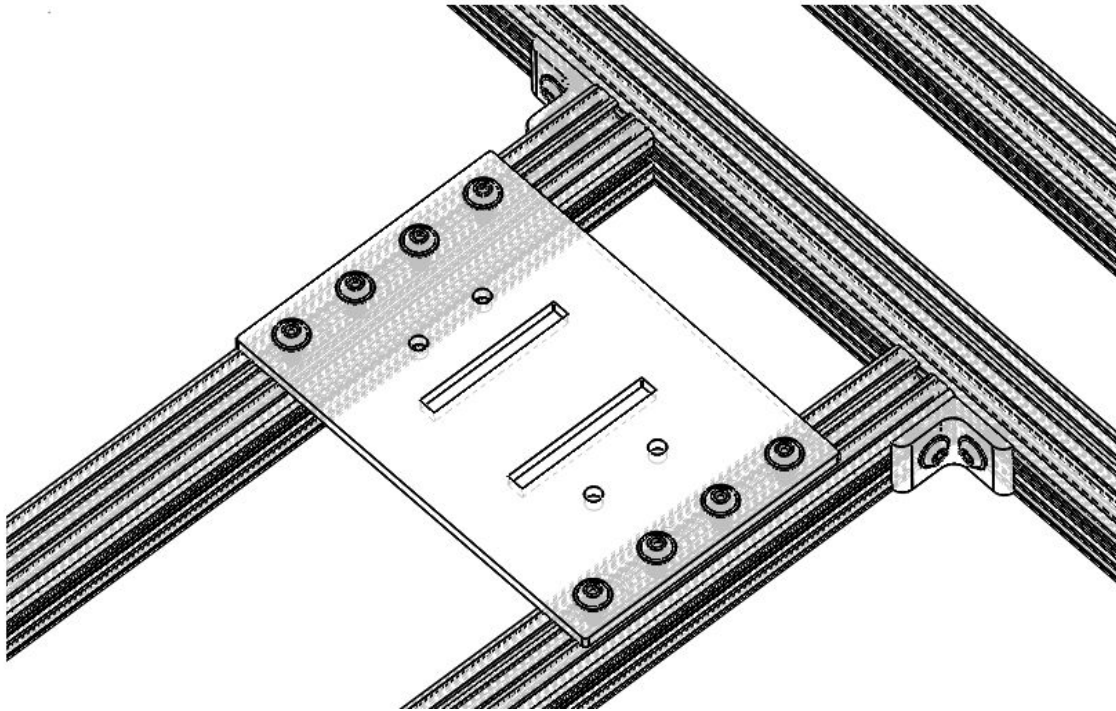

Fig. 3.15 : Fixture base plate (#KGT) fixed on the two 2ft beam (#QDXE) with end feed fasteners (#TEBK)
- ❑ Insert four female parts of the end-feed fasteners (#YREC) on the groove into the slot of one of the beam (#QDXE). You may insert into any side of the beam, but must keep all four in the same side. Once inserted, turn the beam and make the side with the end-feed fastener parts facing up. As shown in Fig. 3.15.